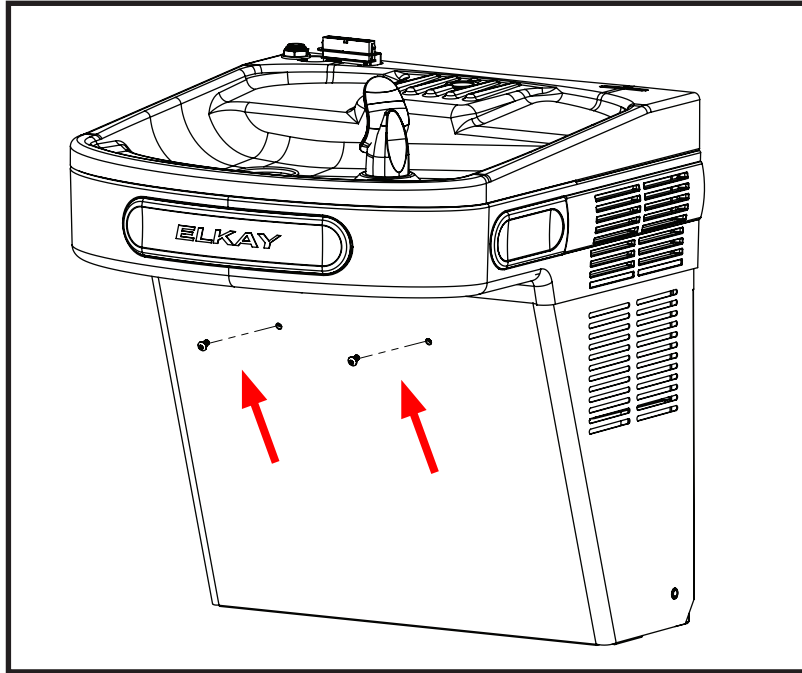

FIG. 5
- 4) Remove the two front screws holding the lower front panel to the cooler frame (see Fig 5, Pg. 7). Rotate the front panel down (see Fig D, Pg. 6) and remove.
- 1) Remove the two front screws holding the lower front panel to the cooler frame (see Fig 5, Pg. 7). Rotate the front panel down (see Fig D, Pg. 6) and remove.
1. Remove the two front screws holding the lower front panel to the cooler frame (see Fig 5, Pg. 7). Rotate the front panel down (see Fig D, Pg.6) and remove.